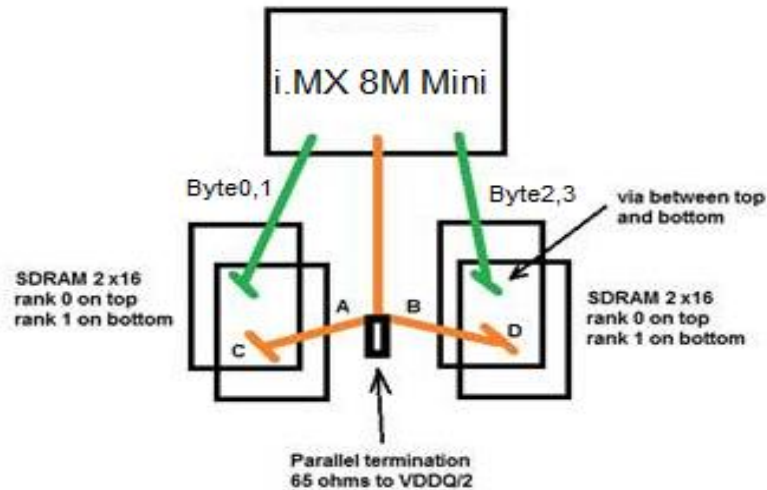

Figure 12. PCB routing topology for a 2-rank system
- As illustrated in Figure 12, for data bytes, route straight from SoC to the SDRAM devices and via up and down with minimal stubs. For address/command signals, it is a T structure with branch to the SDRAM devices and via up and down with minimal stubs. And add a parallel termination (about 65 ohm to $VDDQ/2$ or VTT) at the branch point of the T.